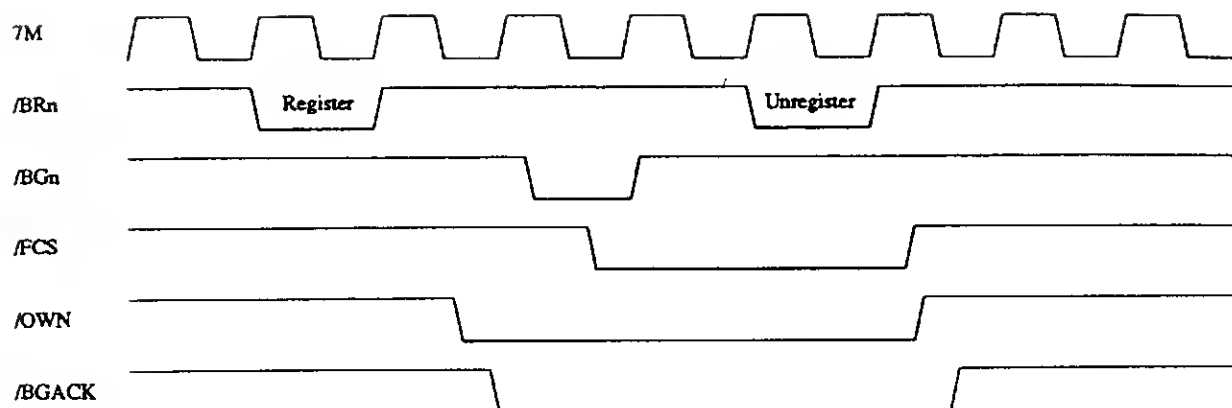

Figure 3-3: Zorro III Bus Arbitration
*Figure 3-3* shows the basics of Zorro III bus arbitration, which is pretty simple. While it uses some of the same signals as the 680x0 inspired Zorro II bus arbitration mechanism, it has nothing to do with 680x0 bus arbitration; the */BRN* and */BGN* signals should be thought of as completely new signals. In order to register with the bus controller as a bus master, a PIC asserts its private */BRN* strobe on the rising edge of the 7M-clock, and negates it on the next rising edge. The bus controller will indicate mastership to a registered bus master by asserting its */BGN*. Once granted the bus, the PIC drives only the standard cycle signals: addresses, */FCS*, */EDSN*, data, etc. in a full cycle. The bus controller manages the assertion of */OWN* and */BGACK*, which are important only for bus management and Zorro II support. While a scheduling scheme